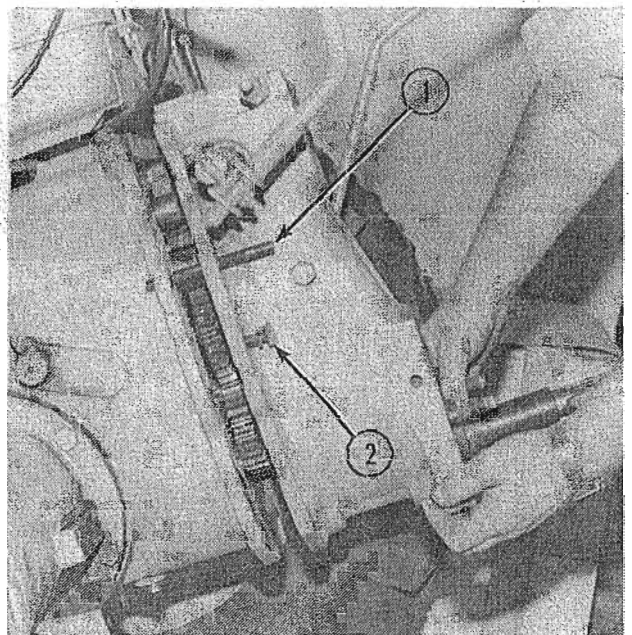

FIG. 3
Remove (6) 10 mm. bolts and (2) 10 mm. shoulder screws holding the rear cover to the main case. You may install (2) 10 mm. studs 2-1/2" to 3" long to support the rear cover as it is removed. (1, Fig. 3)
Thread (2) of the 10 mm. bolts into the (2) tapped holes in the flange of the cover and back the cover away. (2, Fig. 3)